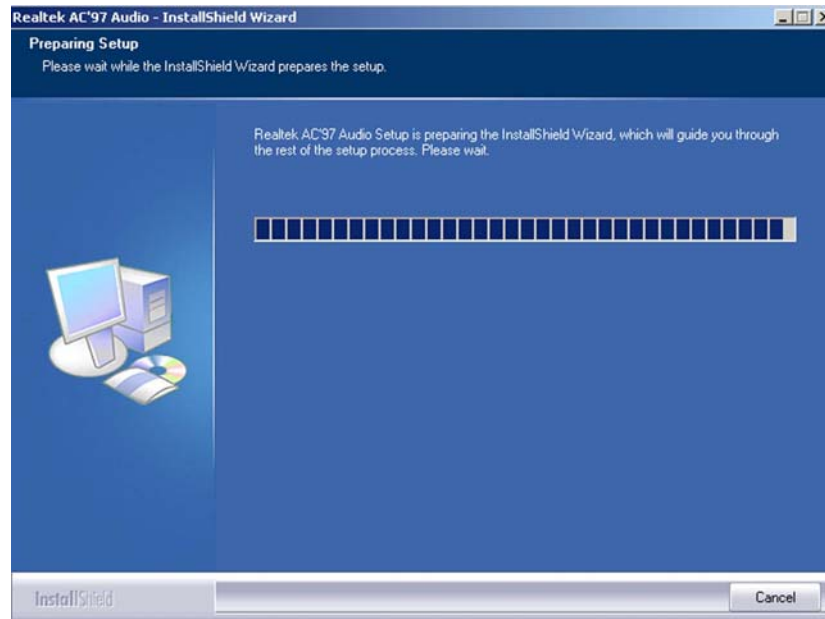

Figure 6-21: AC`97 Audio Driver Setup Preparation
Step 5: The Realtek Audio Setup prepares the install shield to guide you through the rest of the setup process. See Figure 6-21.